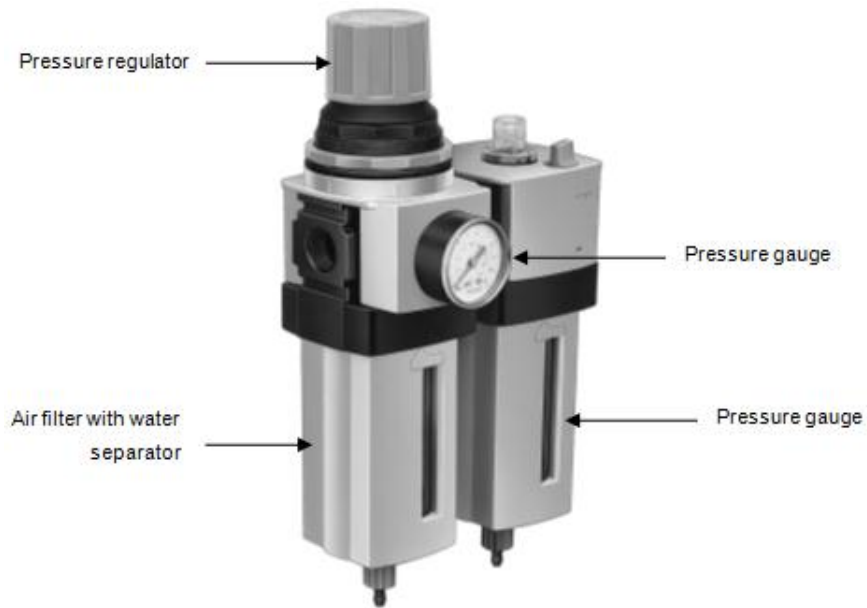

FIG 1.
- A. The air service unit is a combination of the following components: (Fig 1 on the following page)